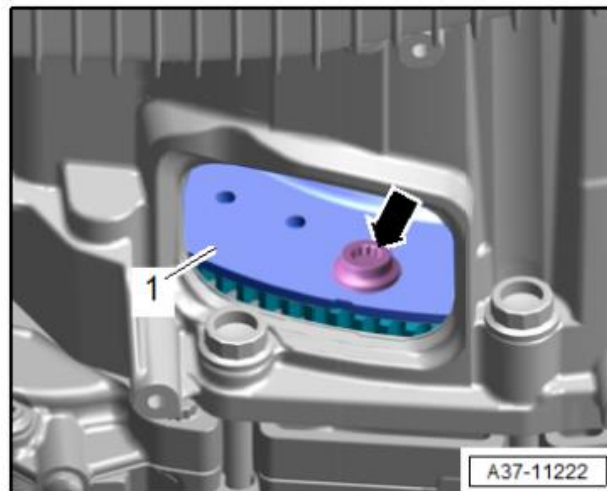

Figure 8. Flywheel bolt.
6. Remove the transport protection tool - T40169- and install the first bolt -arrow- (Figure 8):